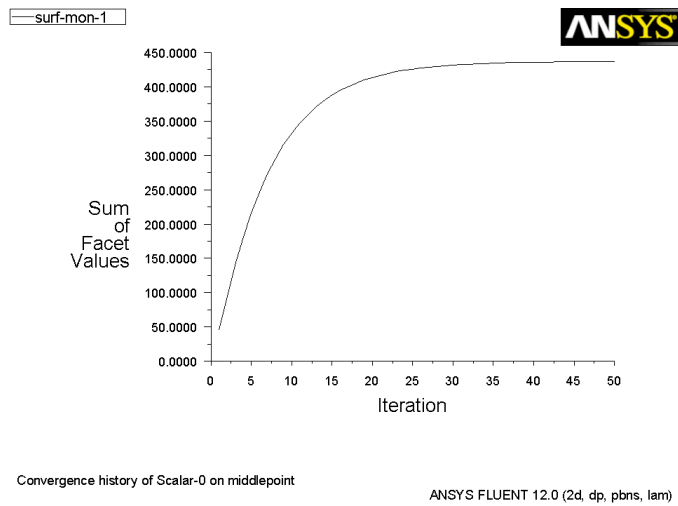

Figure 2: Monitor Plot
6. Run the calculation for 50 iterations (see Figures 2 and 3).
As the value of ϕ remains constant after 40 iterations (Figure 2), you can consider that the solution as converged.